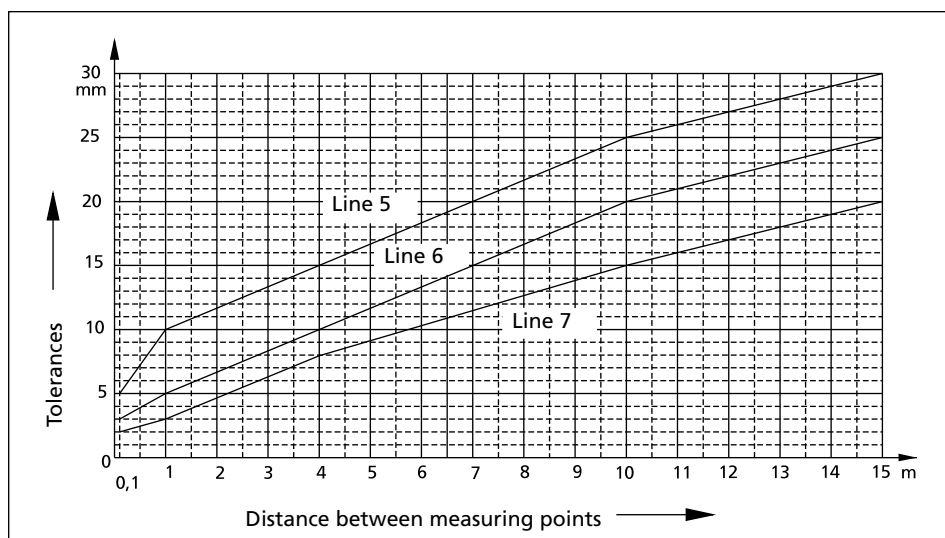

Fig. 8.2
* Intermediate values can be gathered from Fig. 8.2 and have to be approximated to whole mm